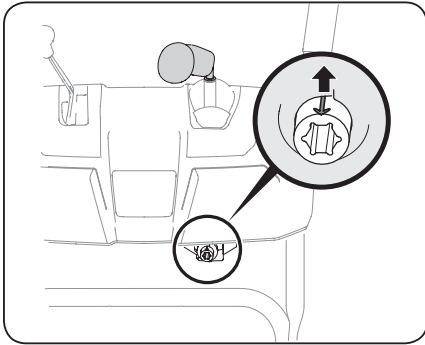

Figure 2-27
5. Rotate joystick to one o'clock position so that silver indicator arrow on pinion gear below control panel faces upward. See Figure 2-27.